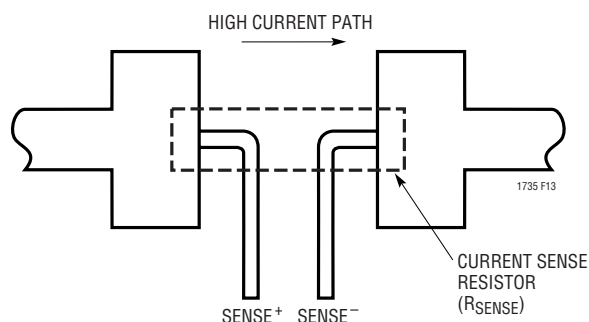

Figure 13. Kelvin Sensing R_{SENSE}
3) Are the SENSE⁻ and SENSE⁺ leads routed together with minimum PC trace spacing? The filter capacitor between SENSE⁺ and SENSE⁻ should be as close as possible to the LTC1735. Ensure accurate current sensing with Kelvin connections as shown in Figure 13. Series resistance can be added to the SENSE lines to increase noise rejection.